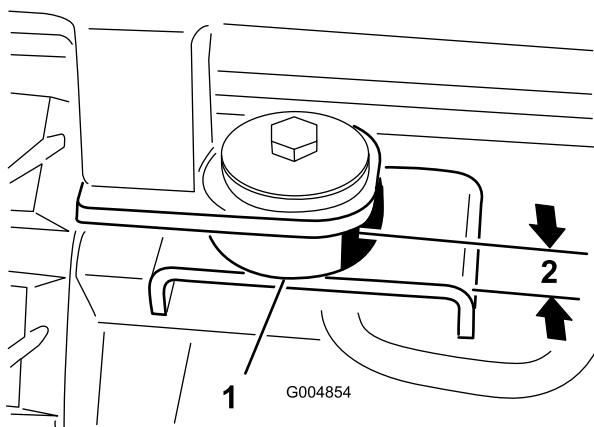

Figure 65
3. Insert a rubber cab mount at the front and rear mounting locations (Figure 65).
5. At each mounting point, secure the cab to the machine with a bolt (1/2 x 3 inches), steel washer (1/2 x 2-1/2 inches), rubber washer (1/2 x 2-1/2 inches) and nut (1/2 inch) (Figure 65). Tighten the bolts until the rubber mounts are compressed to a thickness of 2.2 cm (7/8 inch).